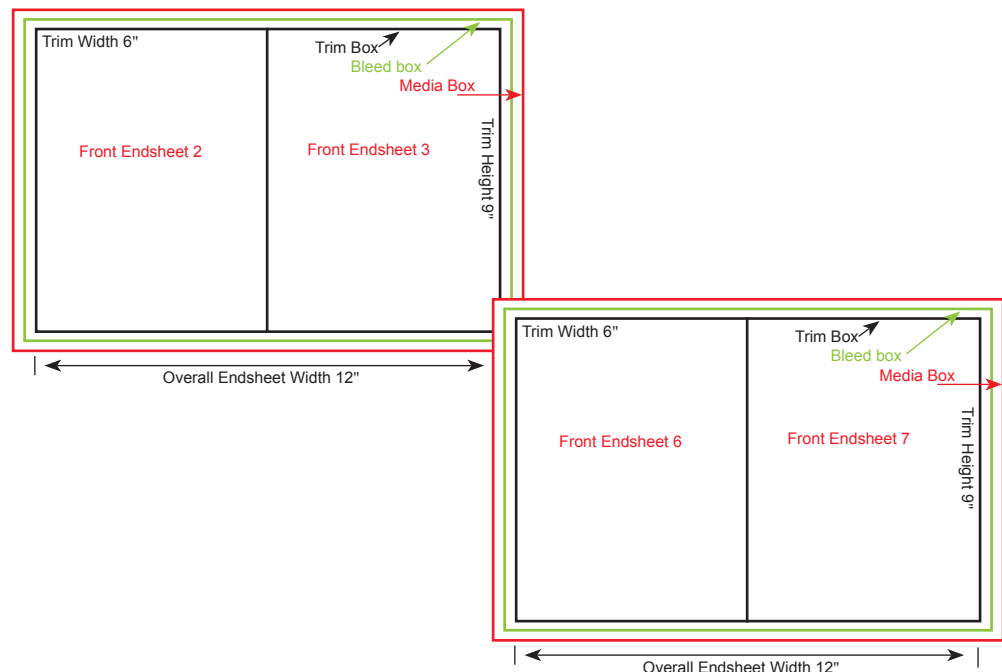

Figure 8
- ❑ File must be created in a spread format. Contact your CSR for a specifically measured layout to setup an endsheet file. (See Figure 8)
- ❑ File spreads must be setup in Landscape. (See Figure 8)
- ❑ PDF Trim Box must be to the same height trim measurements as the text pages. The trim width will be two times the width of the text trim measurements. (See Figure 8)
- ❑ Any bleed elements must extend 1/8" past the trim box. (See Figure 8)
- ❑ Media box must be set at least 1/4" larger than the trim box. (See Figure 8)